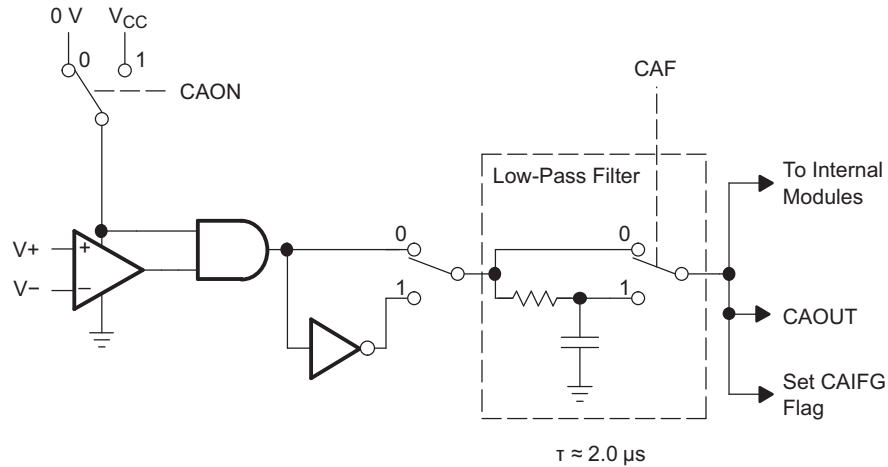
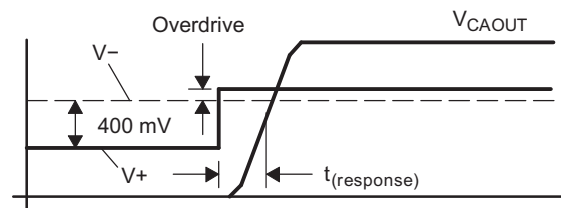

Figure 16. Comparator\_A+ Module Block Diagram
Figure 17. Overdrive Definition
| t (response) Response time (low-high and high-low)                  | T A = 25°C, Overdrive 10 mV,Without filter: CAF = 0 (3)(see Figure 16 and Figure 17) | 2.2 V           | 80   | 165  | 300                 | ns   |
|                                                                                | T A = 25°C, Overdrive 10 mV,With filter: CAF = 1 (3)(see Figure 16 and Figure 17)    | 2.2 V           | 1.4  | 1.9  | 2.8                 | μs   |